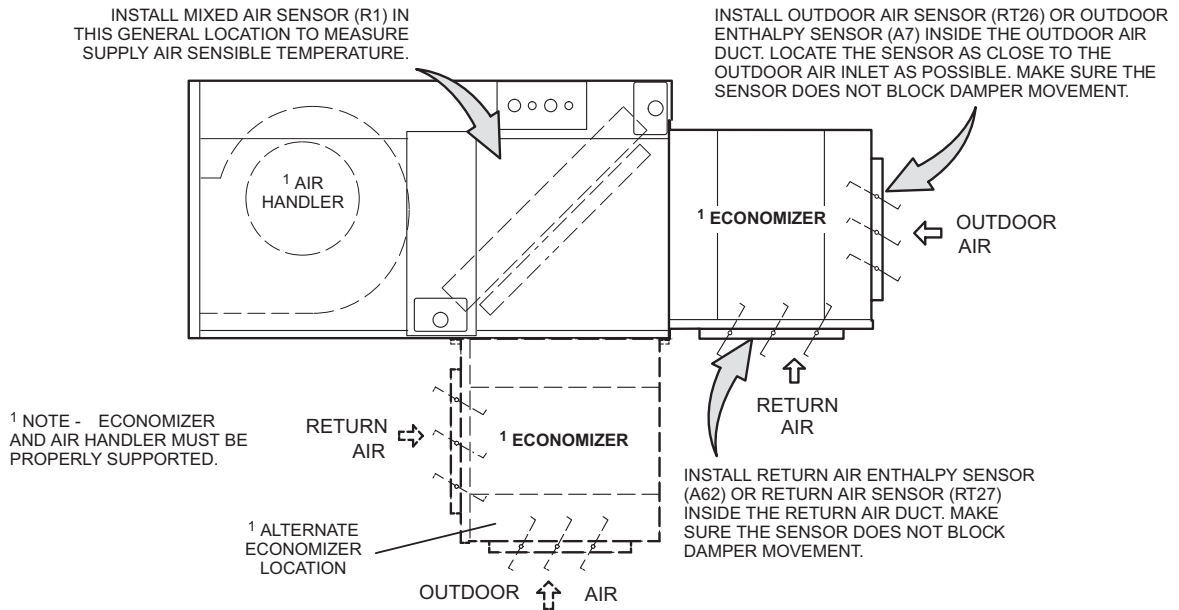

FIGURE 4
- 3 - Replace existing RT26 OA sensor, if applicable, and replace with new A7 sensor from this kit. See FIGURE 4 for sensor location.
- 4 - Remove economizer control access panel. See FIGURE 4.
- 3 - Replace existing RT26 OA sensor with new A7 kit sensor set to "OA". See FIGURE 4 for sensor location.